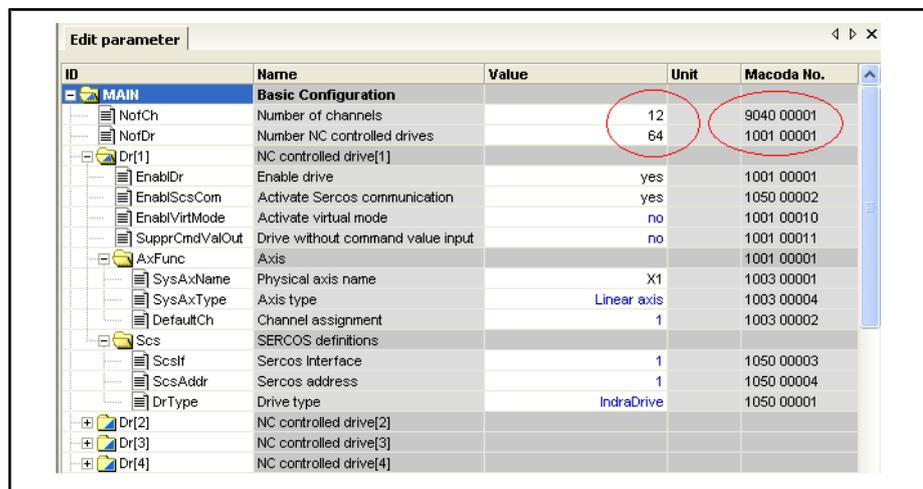

Fig.5-21: Setting the number of channels and axes
- To set the number of channels/axes, modify the entry accordingly (see fig. 5-21 "Setting the number of channels and axes" on page 86). The channels and axes are automatically created by the system.